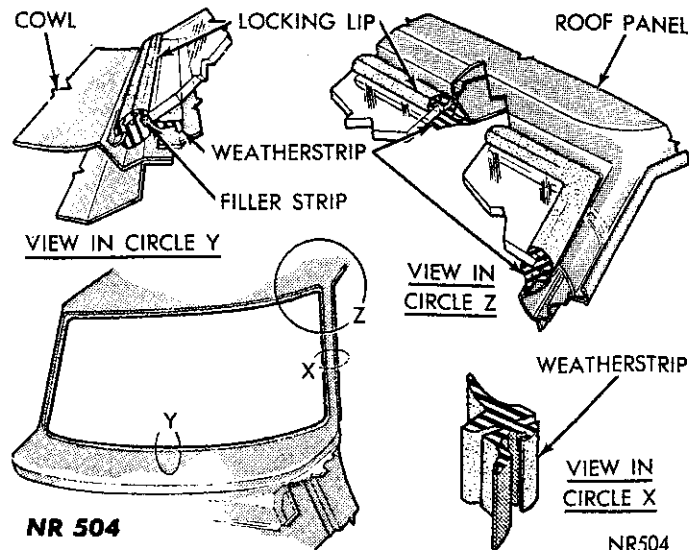

Fig. 5—Windshield Weatherstrip
(1) Remove all old sealer and cement from original weatherstrip if it is being used.
(2) Apply sealer in fence and glass groove portions of weatherstrip. On Dart Models install filler strip in lower part of weatherstrip (Fig. 5).
sides and over bottom, force weatherstrip locking tab into locked position (Fig. 5).